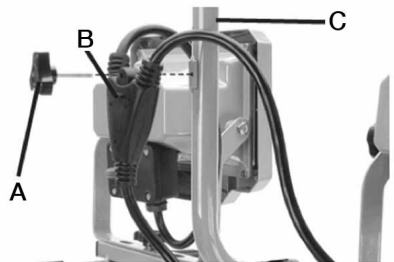

FIGURE 5
3. Use a long knob (A) Fig.5 to attach the power cable connector (B) to the carrying handle (C) as shown in Fig.5.